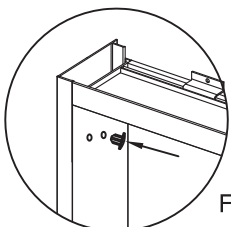
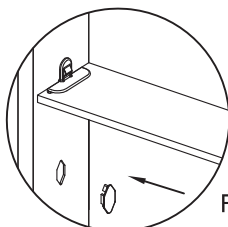

Fig 18
Fig 19
3 .Fill remaining holes with hole plugs ③ (Fig 18). Fill the rest of shelf clip holes with decorative covers ⑬ (Fig 19).